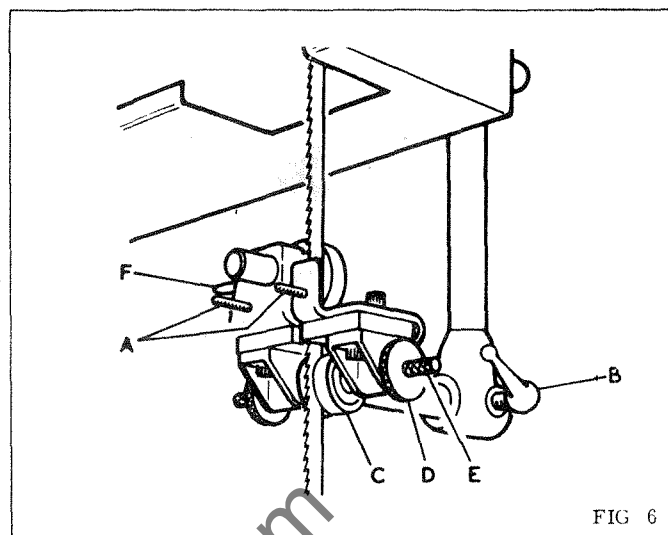
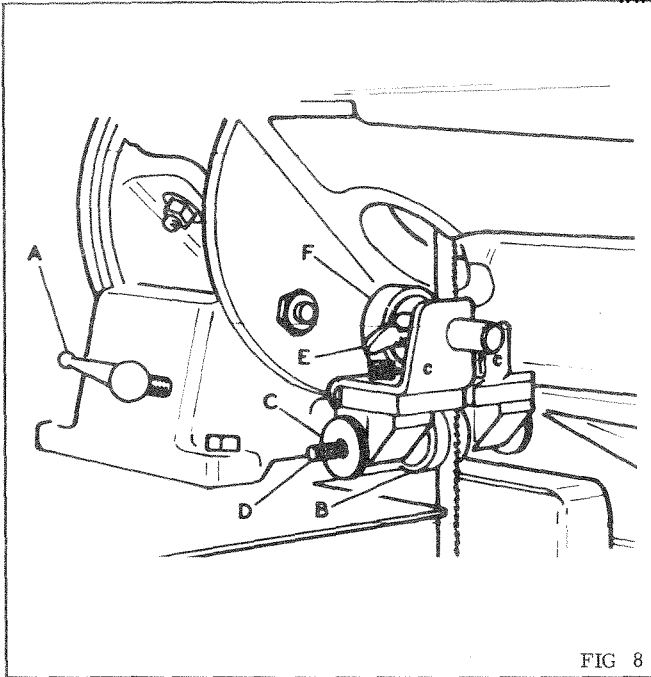

FIG 6
FIG 8
3. Remove sawguard and move the top and bottom guides to the extreme rear position by loosening the locking screws "A" for top guide in Fig. 6 and "A" for bottom guide in Fig. 8.
1. Bring guide assembly forward by loosening ball lever screw "A" in Fig. 8 until side roller guides "B" are positioned just behind the gullet of the sawblade as shown in Fig.